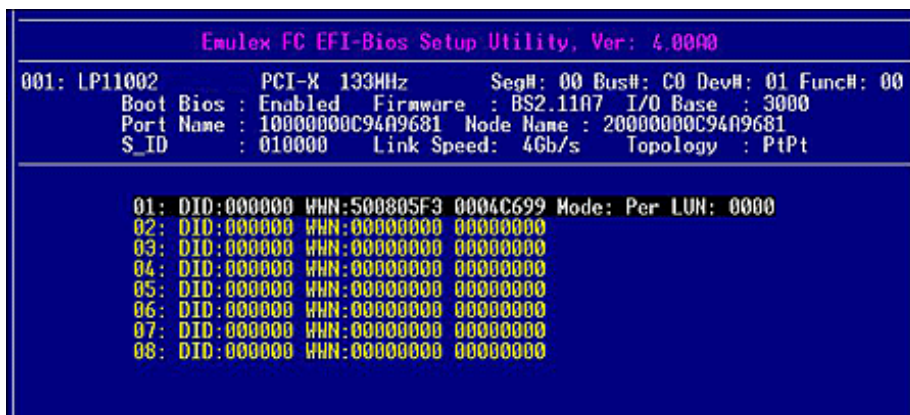

Figure 6-25 Device Rows with a Selected LUN to Boot with WWNN Screen
8. Select **1. Boot this device via WWN** and press **<Enter>**. Figure 6-25 shows the LUN selected in step 5.